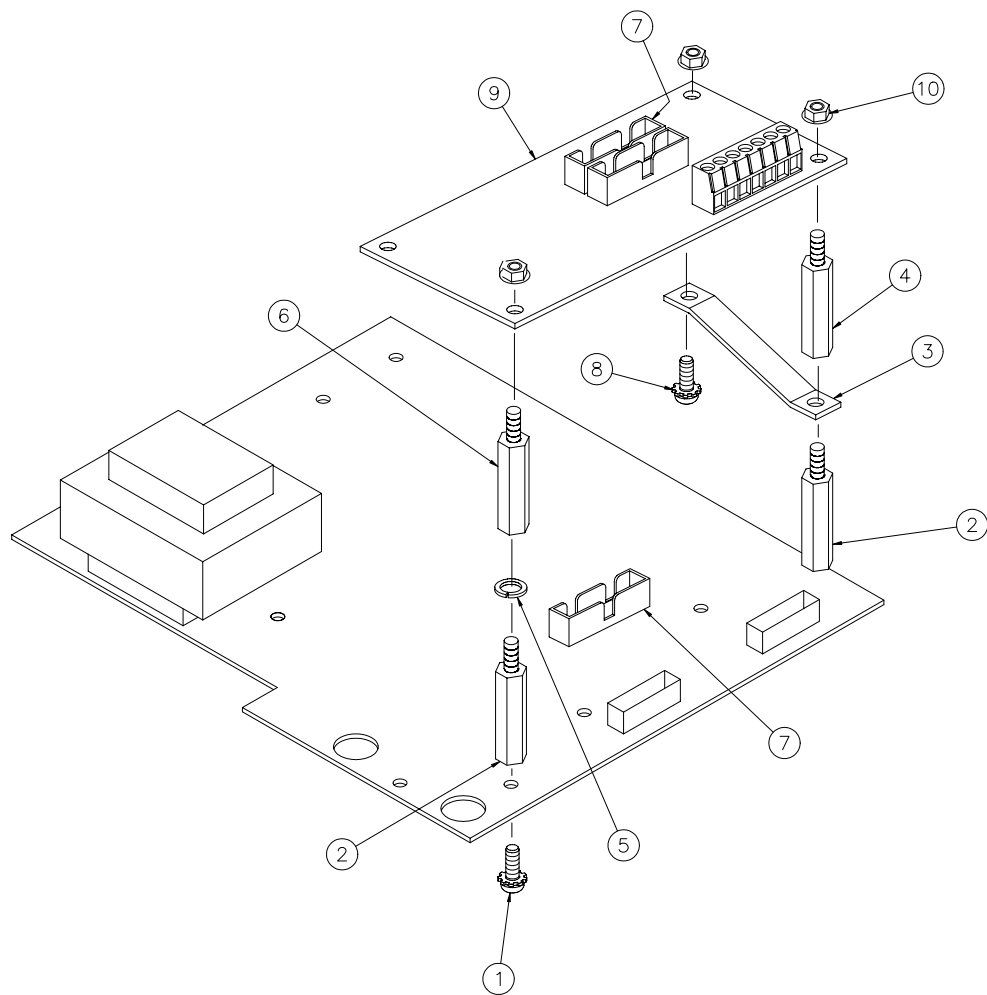

Figure 37, Panel Mount Version Multi-Scale Card Installation
- d. Referring to figure 37, place one of the M4 philips screws through the hole next to the loadcell terminal block J8 from opposite the component side so the threads are protruding through towards the component side of the Main Board.